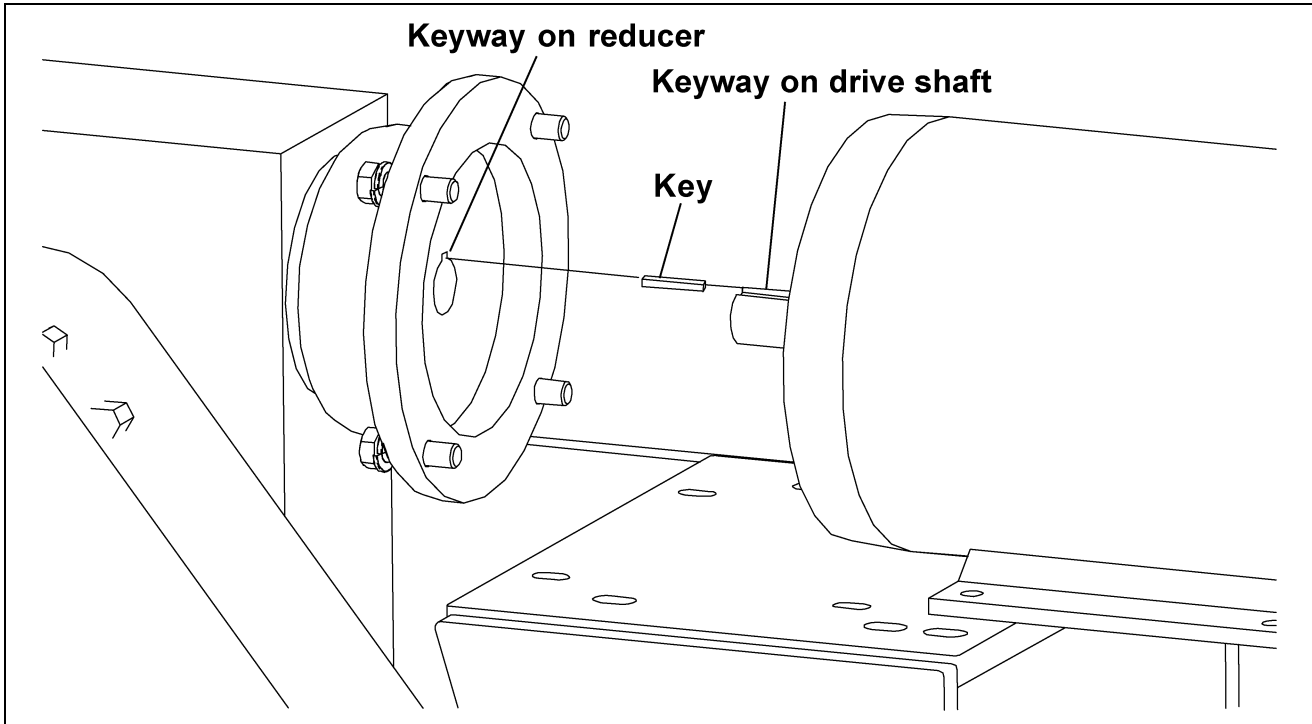

Figure 50
C. Line up keyway on shaft with keyway on reducer and insert shaft into motor. (See Figure 50.)